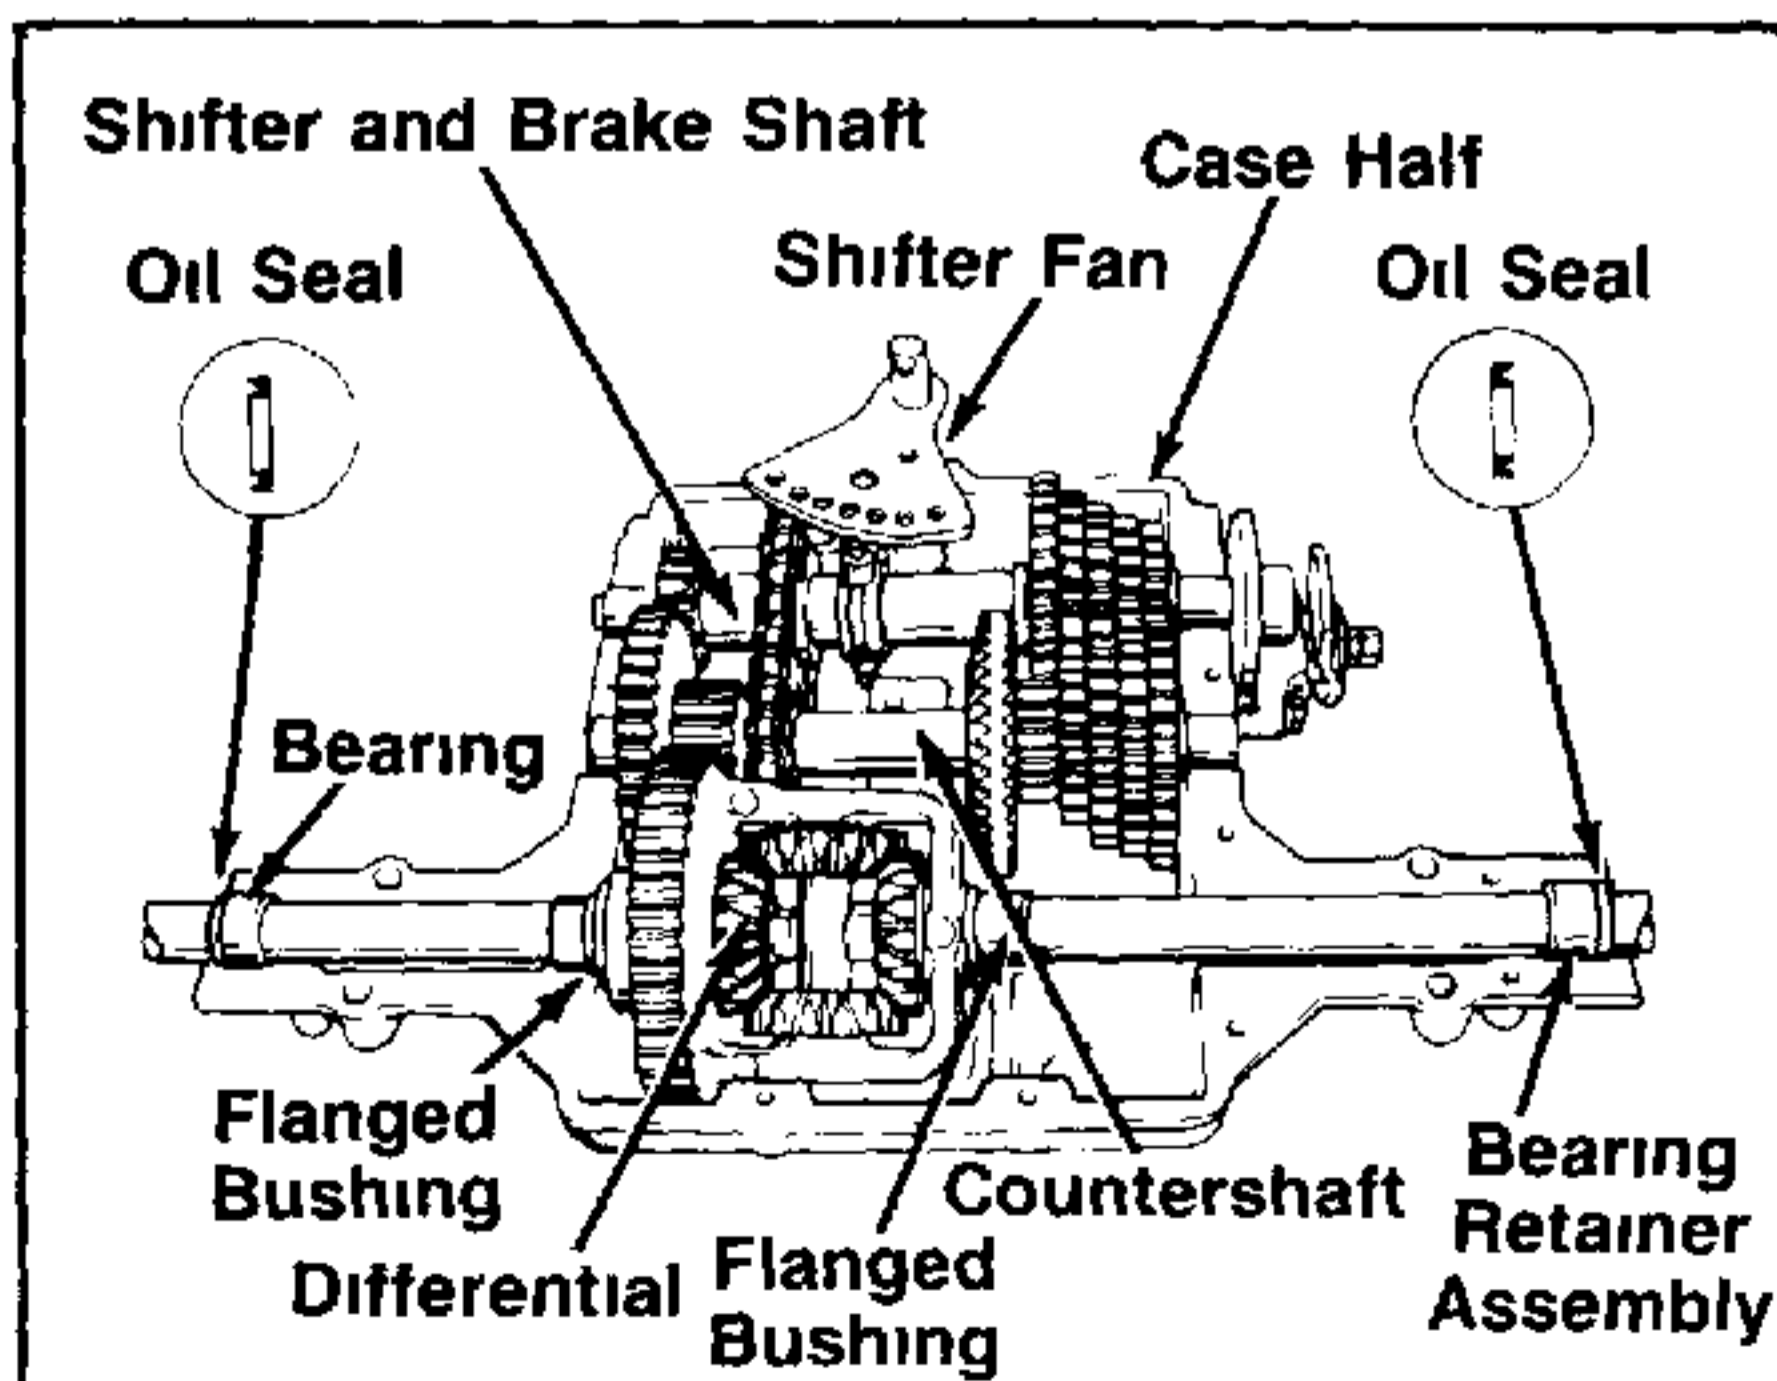

FIGURE 15
- 4 Remove gear and shaft assemblies from case half by lifting the two shafts out of the bearing supports, taking care not to disturb drive chain relationship with hubs on sprockets. See figure 15.